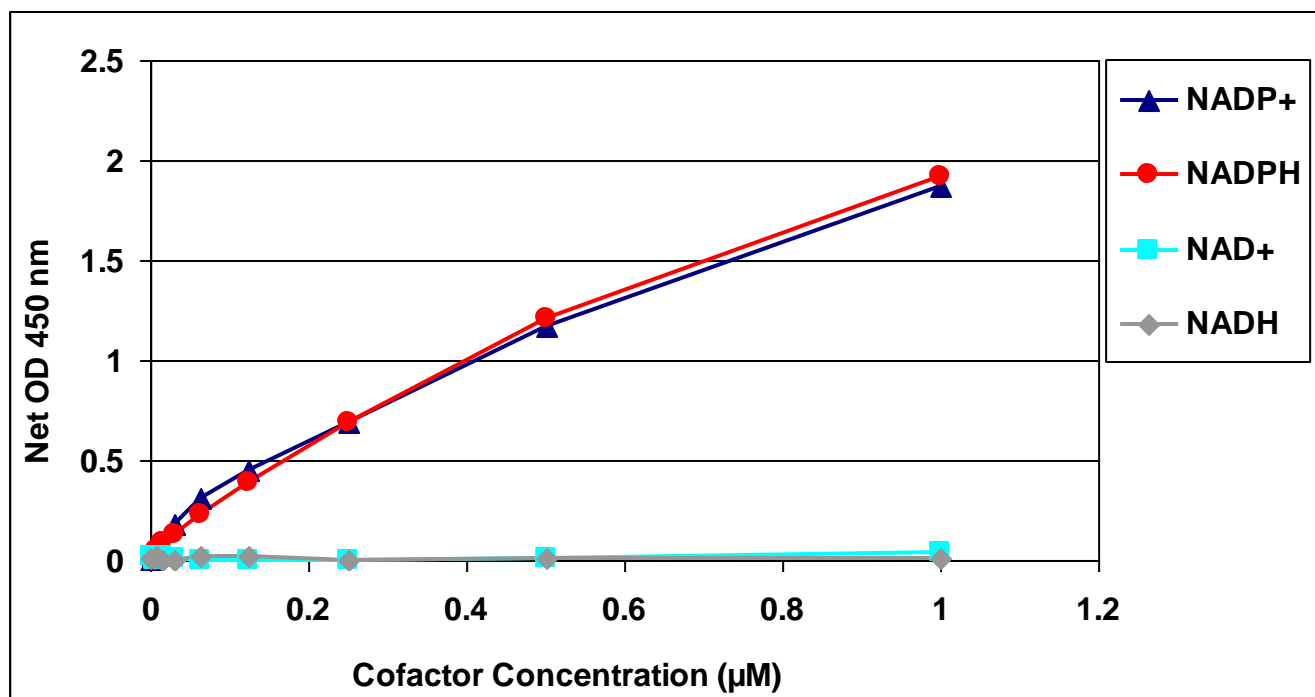

Figure 2: NADP^+ Standard Curve and Specificity of Assay for NADP^+ and NADPH . NADP^+ , NADPH , NAD^+ , and NADH , were tested in the NADP^+ / NADPH Assay Kit.
2. Plot the corrected absorbance for the NADP⁺ standards against the final concentration of the standards from Table 1 to determine the best slope (μM^{-1}). See Figure 2 for an example standard curve.